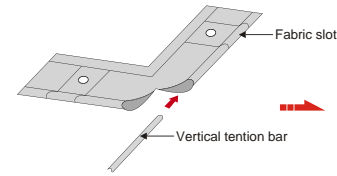

Figure 10
2. Put the tension bars to the four slots of fabric. That is a step suggested to be completed by two persons, one to hold the fabric and another to pull through the tension bars. (Figure 10 - 12)